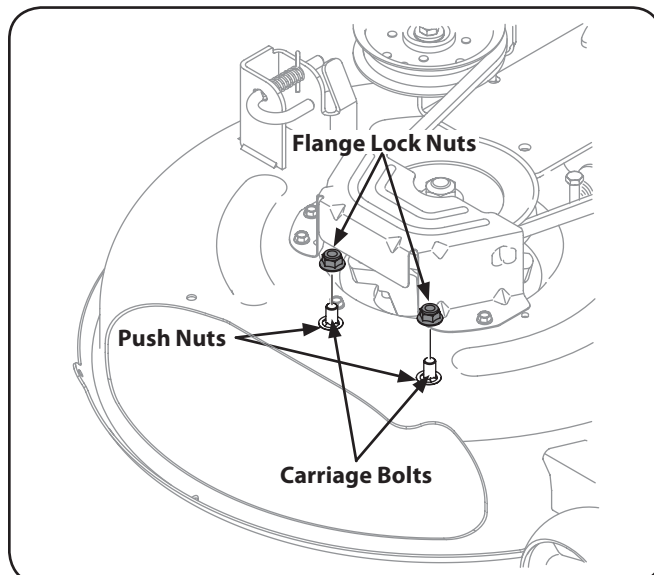

Figure 3-7
2. Remove the flange lock nuts from the deck. Do not remove the push nuts or carriage bolts, leaving them in place will aid in installing the chute. See Fig. 3-7.